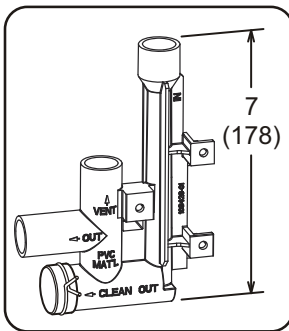

Figure 59. Trap / Drain Assembly Using 1/2" PVC or 3/4" PVC
This unit is designed for either right or left side exit of condensate piping in upflow applications. In horizontal applications, the condensate trap must extend below the unit. An 8" service clearance is required for the condensate trap. Refer to Figure 52 and Figure 53 for condensate trap locations. Figure 59 shows trap assembly using 1/2" PVC or 3/4" PVC.
3. Install the cap over the clean out opening at the base of the trap. Secure with clamp. See Figure 59.
4. Install drain trap using appropriate PVC fittings, glue all joints. Glue the provided drain trap as shown in Figure 59. Route the condensate line to an open drain. Condensate line must maintain a 1/4" downward slope from the furnace to the drain.